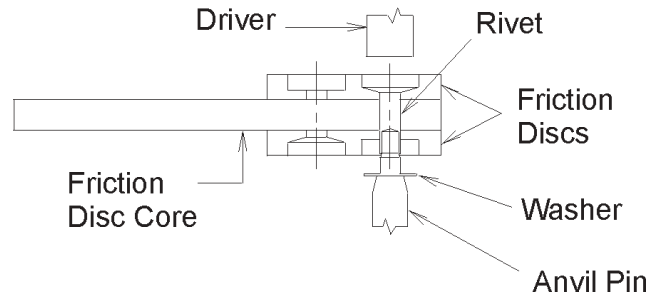
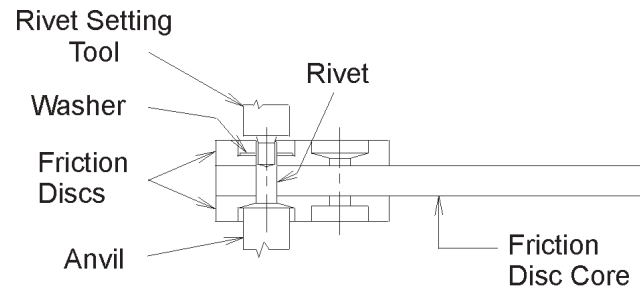

Fig. 12
Fig.13
- 4.3.4.4 Insert a rivet through any hole and set using a washer on the clinched end of the rivet. Be sure to note the type of counterbored hole to determine the position of the rivet head. See Figures 12 and 13. Figure 12 shows machine-setting and Figure 13 shows setting the rivet manually. When setting manually, use an arbor press and keep the setting tool square to avoid splitting the rivet.